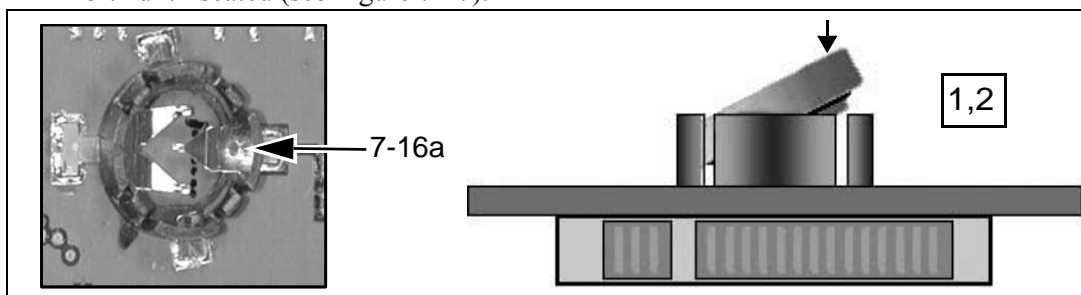

Figure 7-16.
1. Insert Microphone in same fashion as Coin Cell at 45° angle (see Figure 7-16 and 7-17).